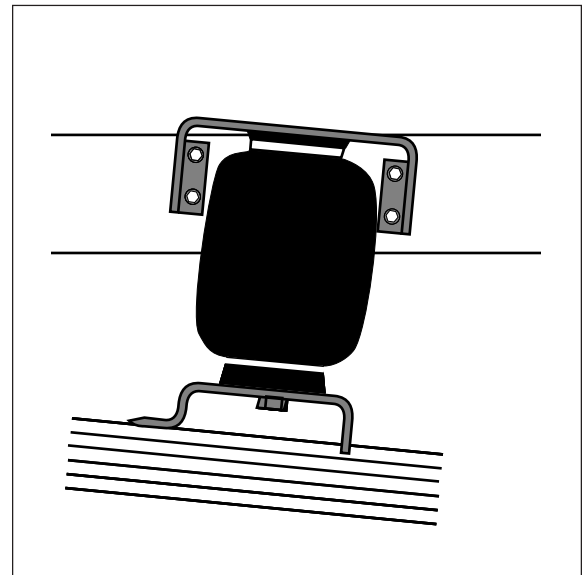

Figure 8
- Check to see that the sleeve rolls back down over the bottom piston after the vehicle is lowered (Figure 8 and 9).
8. *Should it become necessary to raise the vehicle by the frame, make sure the system is at minimum pressure (5 p.s.i.) to reduce the tension on the suspension/brake components.* Check to see that the sleeve rolls back down over the bottom piston after the vehicle is lowered (Figure 8). If sleeve fails to roll back down over the piston, add air pressure until sleeve “pops” back over piston (do not exceed 100 p.s.i.).